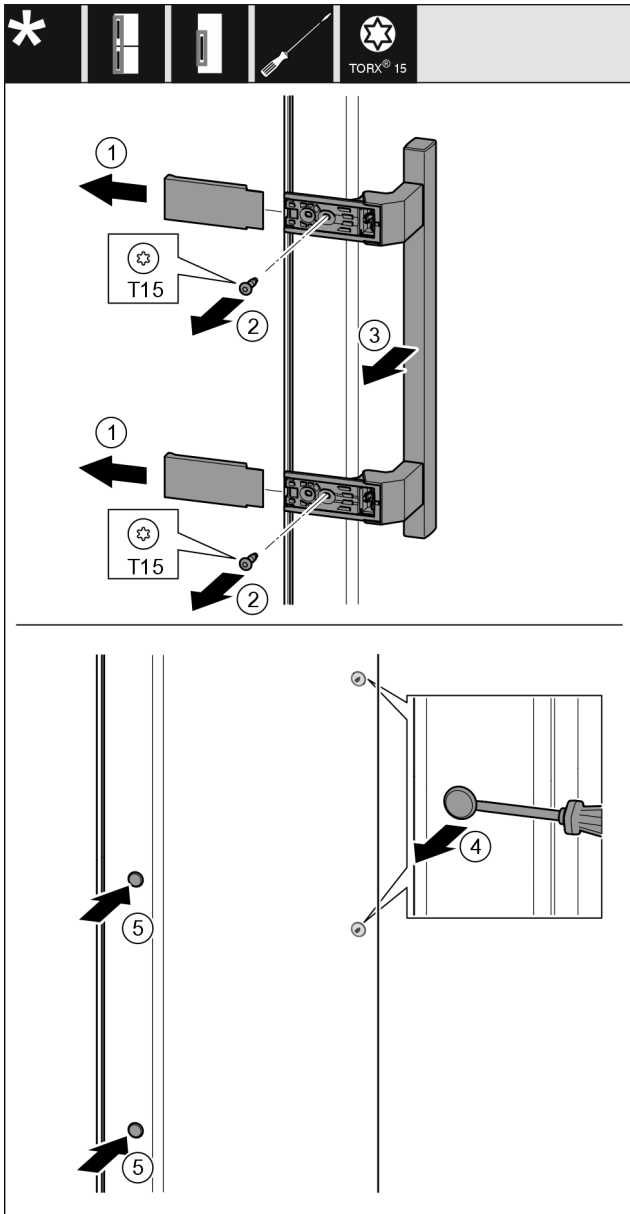

Fig. 25
- ▶ Remove the cover Fig. 25 (1).
- ▶ Unscrew screws Fig. 25 (2) with screwdriver.
- ▶ Remove the handle Fig. 25 (3).
- ▶ Use a slotted screwdriver to lift the side plug Fig. 25 (4) carefully and pull it out.
- ▶ Re-insert the plug Fig. 25 (5) on the other side.